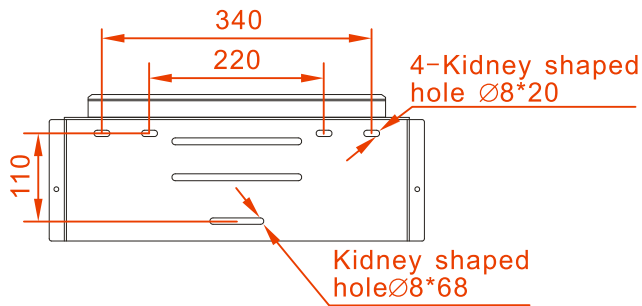

Figure3-2 The dimensions of installation holes of installation holder (Unit: mm)
Inverter can be installed on the wall or metal holder through equipped installation holder, the dimensions of installation holes of the installation holder is as shown in Figure3-2.
- Step 2 According to the dimensions of installation holes of installation holder (as shown in Figure3-2), mark the position of installation holes on the wall. Drill holes on the wall vertically by hammer drilling according to the marked position.